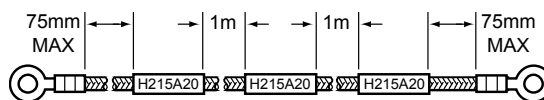

Figure 2-3 Location of Identification Sleeve
32. When wire or cable cannot be marked directly, install a sleeve, (refer Figure 2-3) marked with the identification number, over the outer covering at each terminating end and at not more than 90cm intervals along the entire length of the wire or cable.